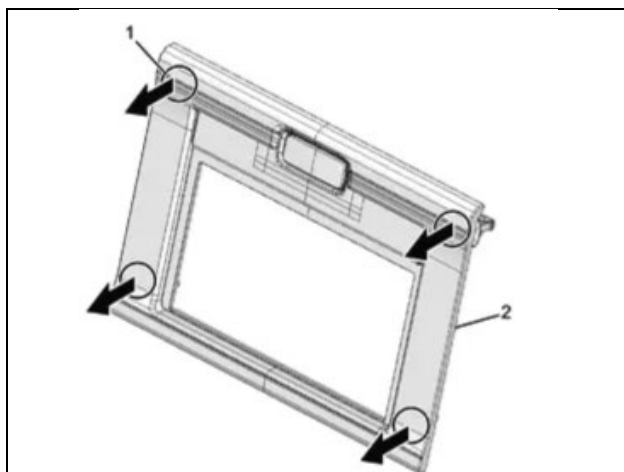

Figure 12
13. Pull out the bezel from the center cluster. (See Figure 12.)